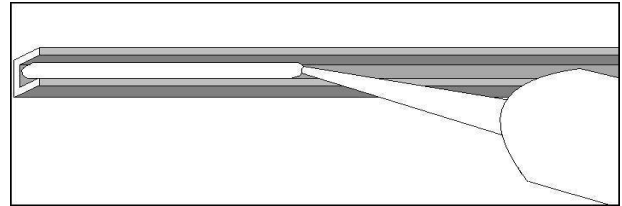

Figure 3
8. Make an even silicone stripe with 6mm diameter in the U-laths fixed on the wall and on the floor (**Figure 3**).